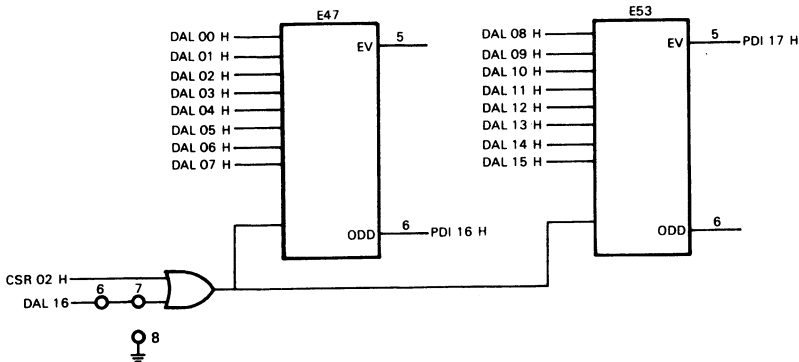

Figure 19-20 Parity Generators
**Parity Generation**—When memory receives the data from the bus master, DAL 15-00 goes to the parity generators (Figure 19-20). DAL 07-00 and PDI16H generate odd parity when writing into memory. DAL 15-08 and PDI17H generate even parity when writing into memory.